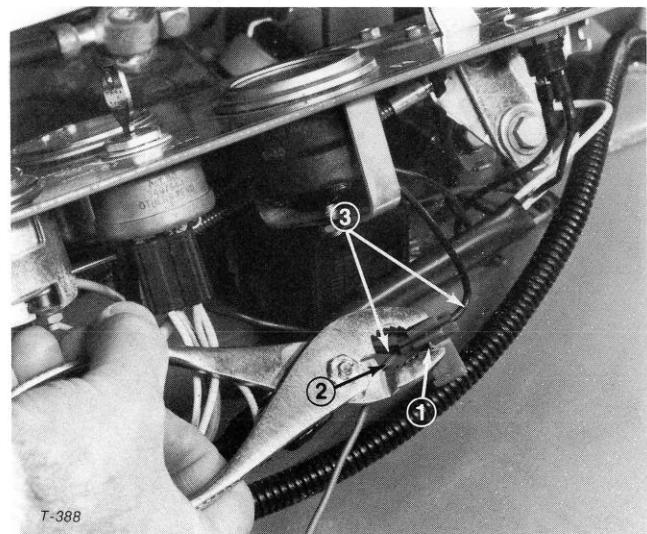

Figure 36
6. Hold red and black wires in position and squeeze metal tab in connector with pliers to lock wires into connector (Fig. 36).